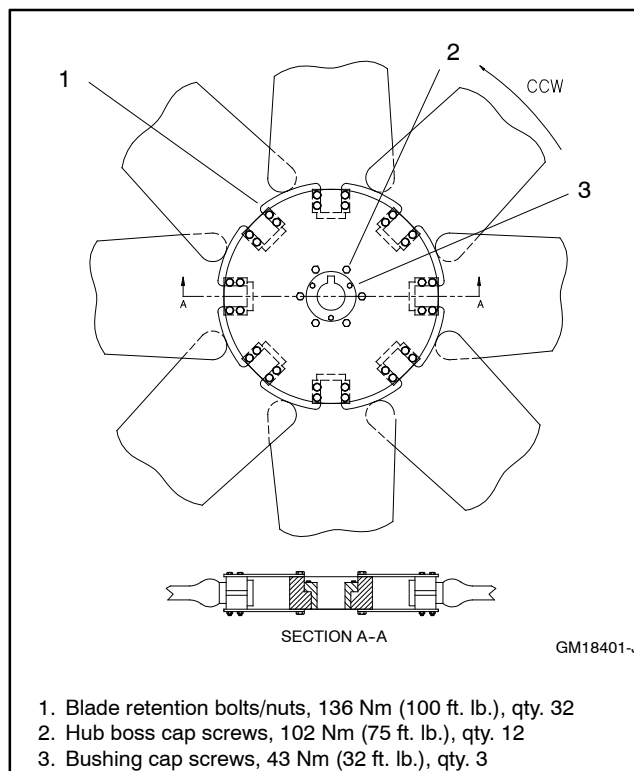

Figure 3-13 Fan Hardware Location and Torque
6. Retorque the (32 qty.) blade retention bolts/nuts to 136 Nm (100 ft. lb.). See Figure 3-13.